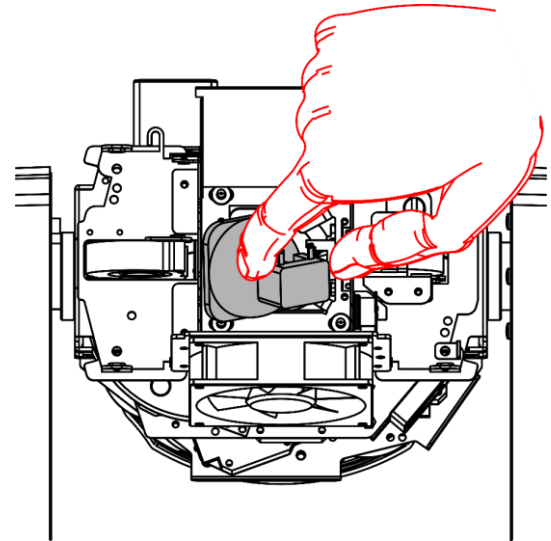

Fig. 22
- 06) Roll the lamp carefully out of the device and remove it (Fig. 22).